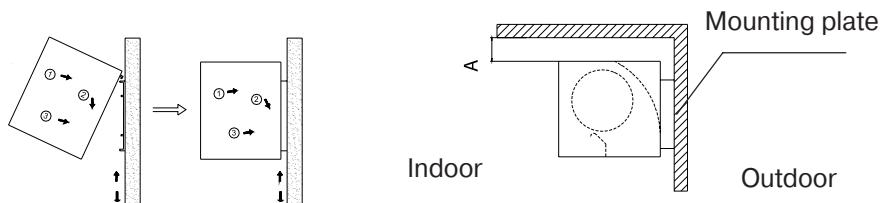

Figure 6. Air Curtain Installation on the mounting plate.
- e) Install Air Curtain on the mounting plate. A interval must be more than 100 mm (Fig.6)